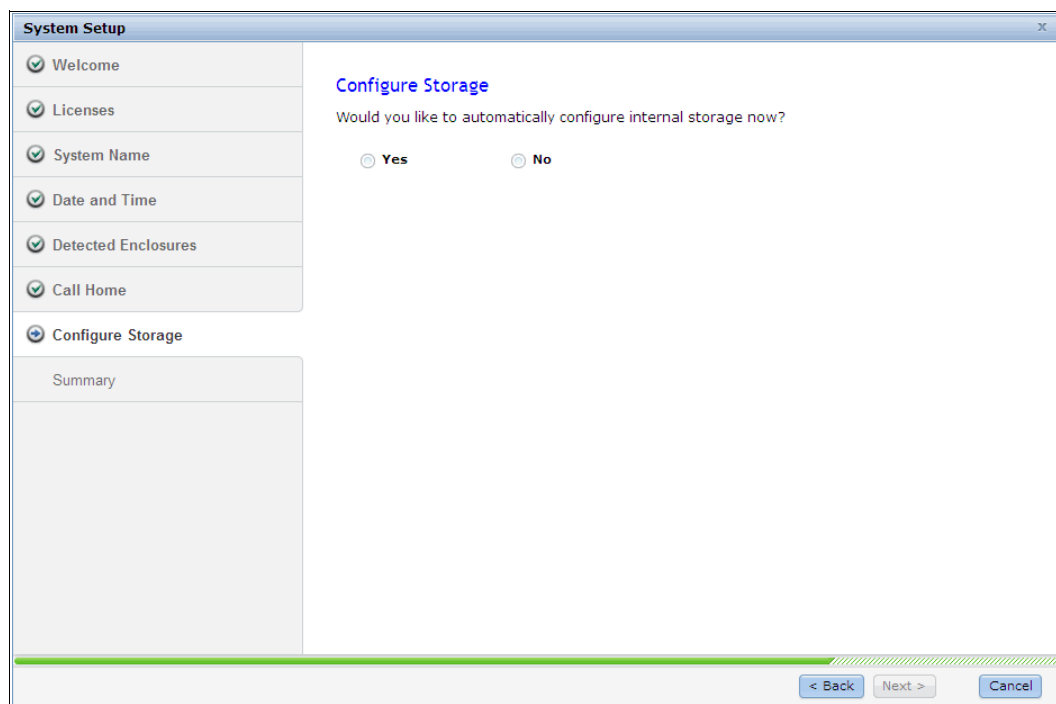

Figure 2-29 Configure Storage option
6. The initial configuration wizard moves on to the Configure Storage option next. This option takes all the disks in the IBM Storwize V5000 and automatically configures them into optimal RAID arrays for use as MDisks. If you do not want to automatically configure disks now, select **No** and you exit the wizard to the IBM Storwize V5000 GUI, as shown in Figure 2-29 on page 57.